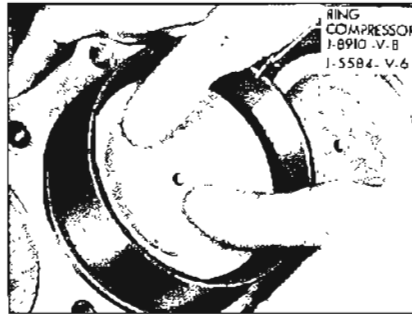

Figure 2-54—Installing Piston with Ring Compressor
The pistons are cam ground, which means that the diameter at a right angle to the piston pin is greater than the diameter parallel to the piston pin. When a piston is checked for size, it must be measured with micrometers applied to the skirt at points 90° to the piston pin. See Figure 2-54. The piston should be measured (for fitting purposes) 1/4 below the bottom of the oil ring groove,
15. Lubricate the piston and rings and install in bore by compressing the rings either with a "wrap around" compressor or a split ring type such as shown in Figure 2-54.